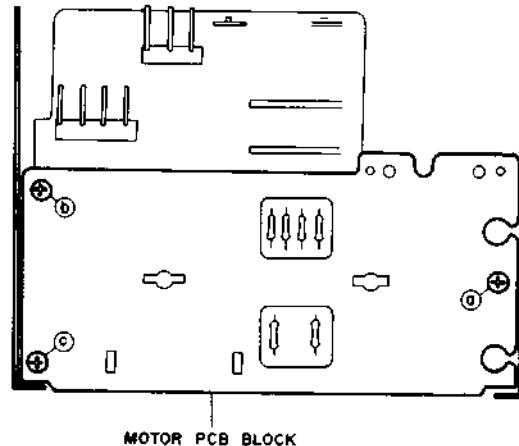

Fig. 4-9
- 2) Remove motor PCB block securing screws **(a)**, **(b)** and **(c)** and take out the motor PCB block. (See Fig. 4-9.)